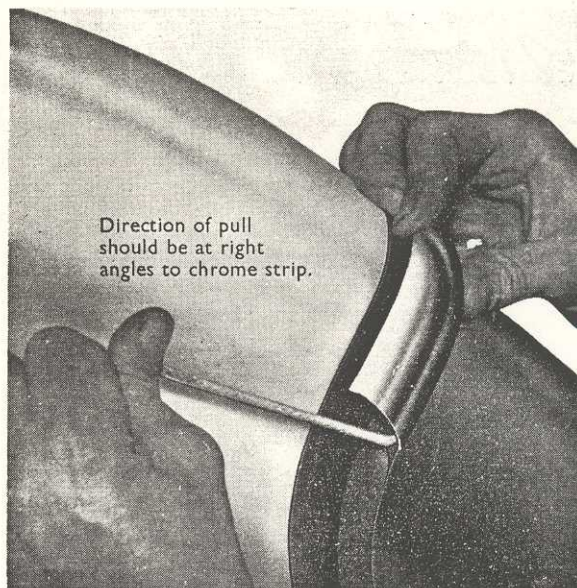

Fig. 13
15. Place the transverse moulding in position along the weatherstrip, then pull the draw cord upwards and at right angles to the moulding to enter the lip on the back face of the moulding into the weatherstrip groove. At the same time press hard on the moulding to secure the lip into the weatherstrip (see Fig. 13).